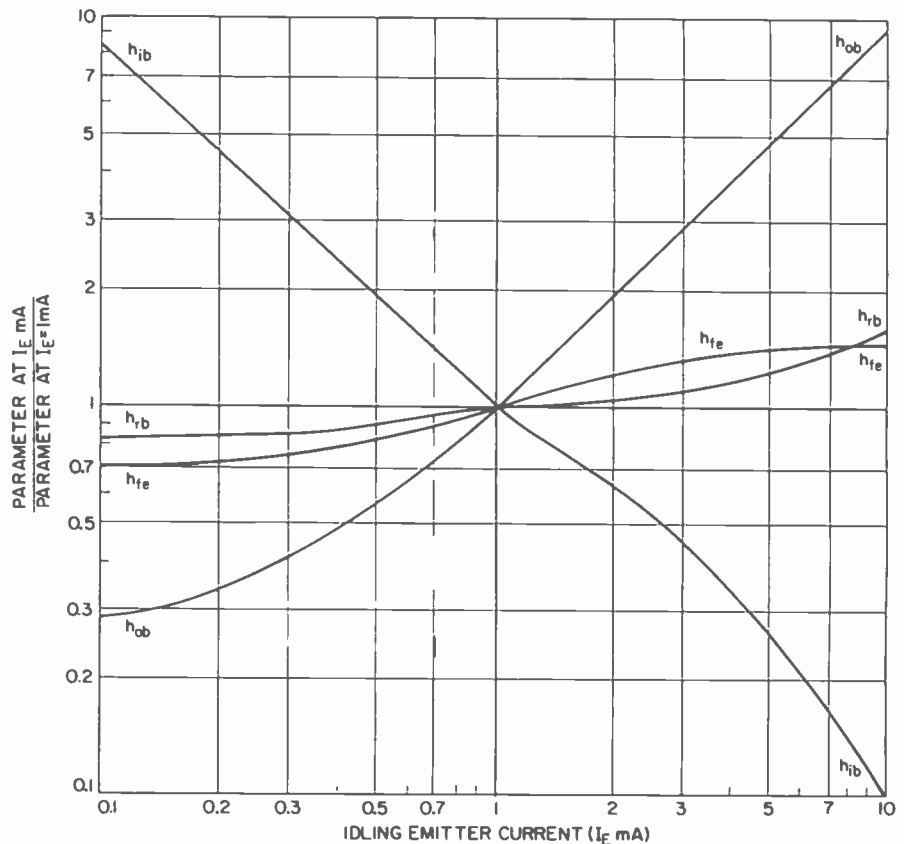

FIG. 5—HOW H-PARAMETERS VARY with changes in idling emitter current.
The various h-parameters vary with emitter current and collector-to-emitter voltage. Curves such as those shown in Figs. 5 and 6 are normally supplied by manufacturers to describe how these parameters vary. As an example, assume the values for the h-parameters are given for  $I_E = 1$  mA and  $V_{CE} = 5$  volts. If the value of  $h_{ie}$  at these quiescent conditions is  $5 \times 10^{-5}$  mhos, and it is required to know the  $h_{ie}$  at 10 mA and 10 volts,  $I_C$  and  $V_{CE}$ , respectively, the following gymnastics must be performed.
1. From Fig. 5, the ratios of the actual  $h_{ie}$  at 10 mA to  $h_{ie}$  at 1 mA is 10. Then due to the current deviation from the specified value,  $h_{ie}$  is  $10 \times (5 \times 10^{-5}) = 5 \times 10^{-4}$  mhos.